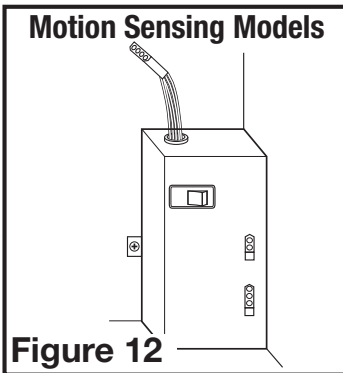

Figure 12
- 3b. **MOTION SENSING MODELS:** Plug the fan's 2 pin and 3 pin quick connect motor cords into the receptacles located on the side of the wire compartment. Plug the 3 pin quick connect cord from the motion sensor on the grill into the receptacle coming out of the top of the wire compartment. These cords will only fit one way into the receptacles (Figure 12).